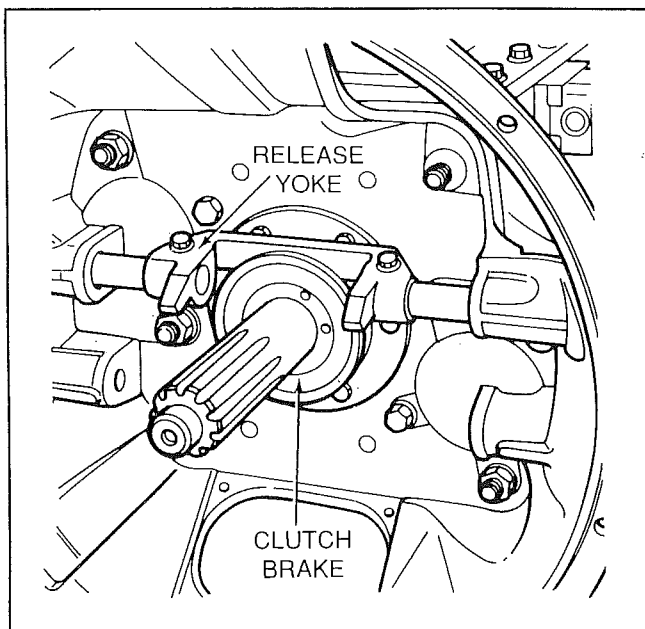

Figure 10-13. Release Yoke Tips Rotated Up
2. If a clutch brake is used, install it on the transmission input shaft. Slide the clutch brake back into a position which will allow the release yoke contact fingers to be rotated up as high as possible (Fig. 10-13). This will allow the yoke tips to pass over the top of the release bearing during transmission insertion. If a clutch brake is not used, simply rotate the release yoke contact tips as high as possible.